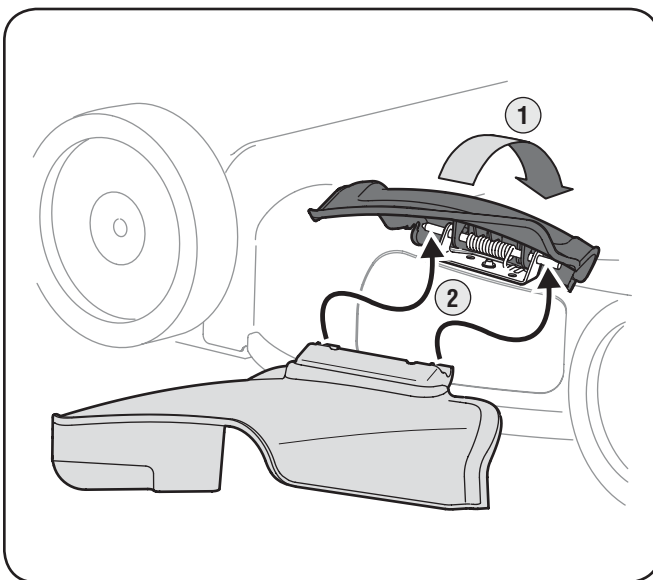

Figure 3-8
1. On the side of the mower, lift the mulching plug. See Figure 3-8.